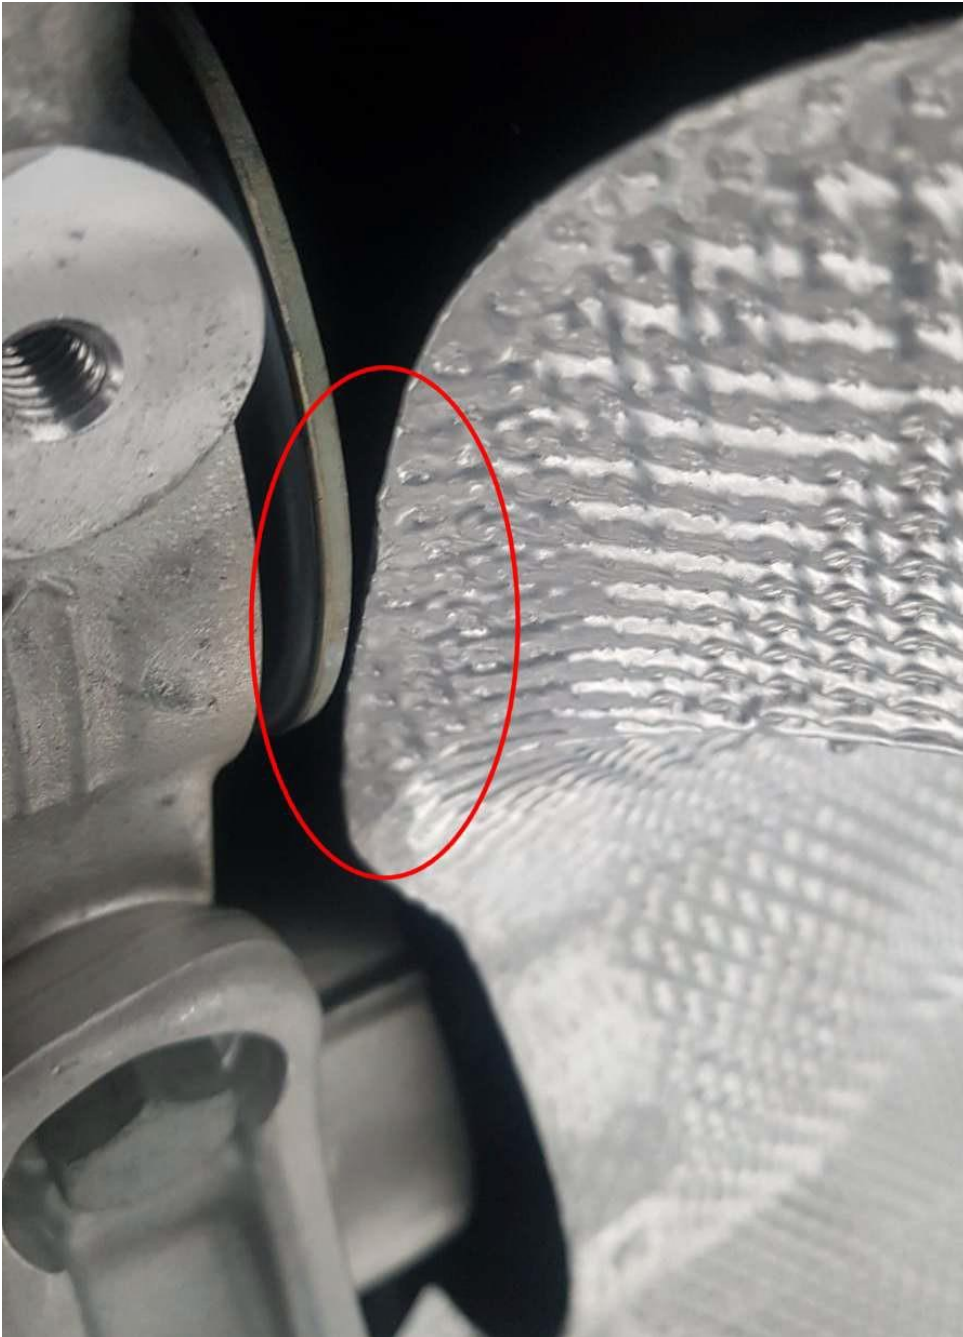

Figure 1
3) Referring to Figures 1 and 2